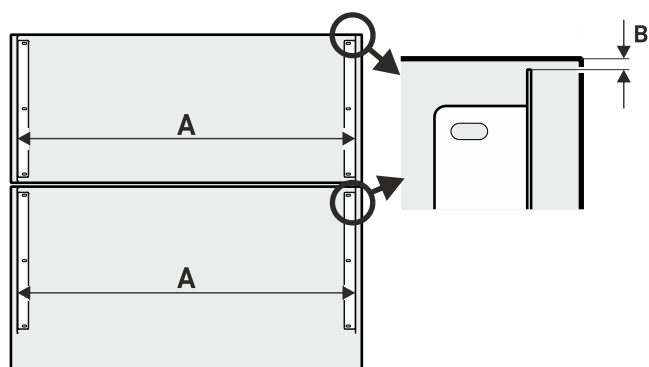

Fig. 40
- Fit the mounting bracket, taking into account the distance Fig. 40 (A) and spacing Fig. 40 (B).